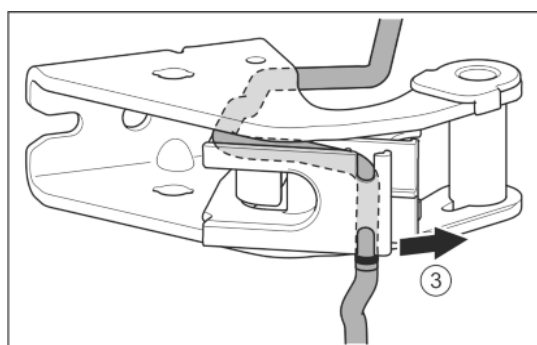

Fig. 25
- Remove the cable from the guide. *Fig. 25 (3)*